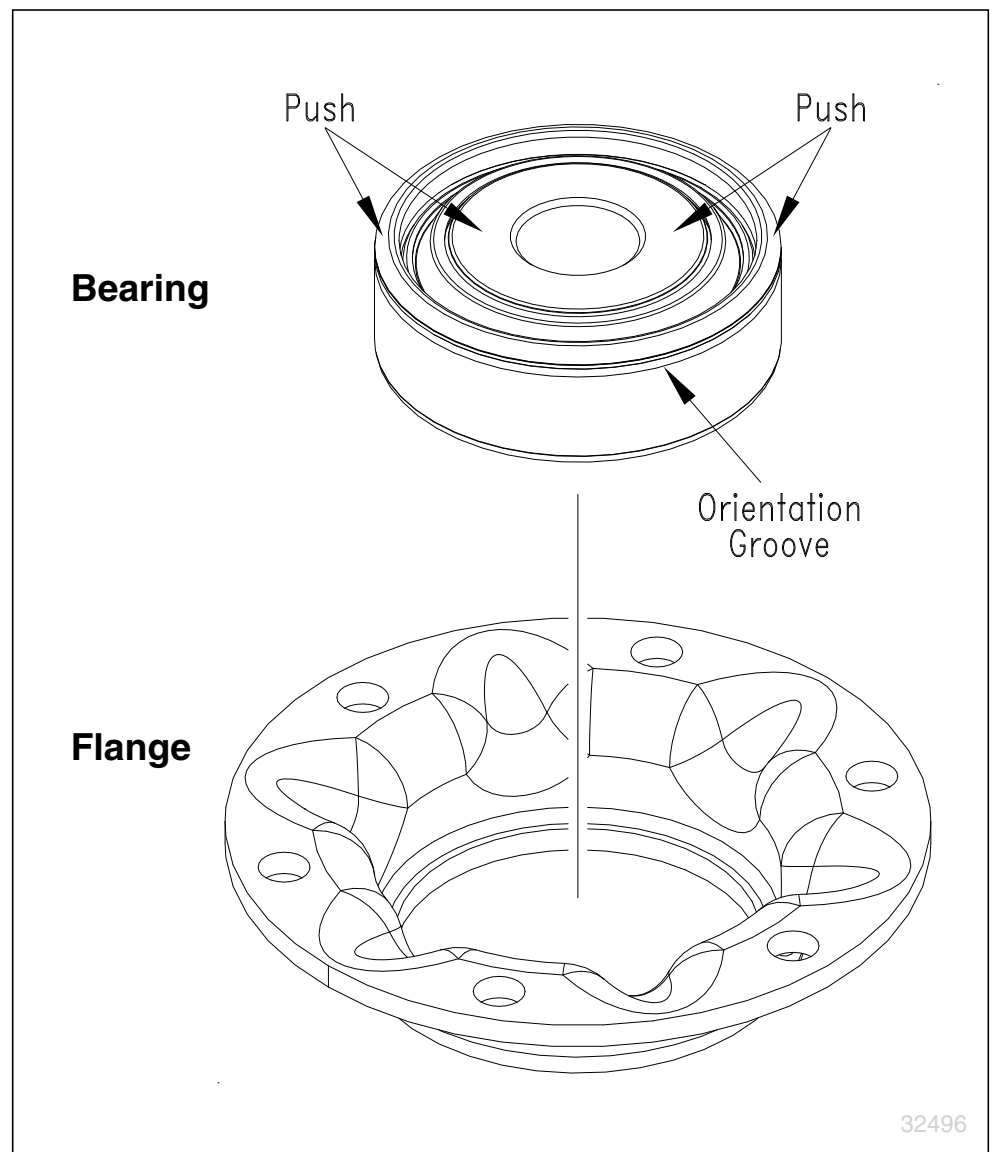

Figure 1
1. Position the flange on a flat surface on the bed of a hydraulic or manual press (as shown in Fig 1).
Note: There is an orientation groove on the outside edge of the bearing to indicate that end faces out (as shown in Fig 1).
2. Set the bearing in the flange with the orientation groove up (as shown in Fig 1).